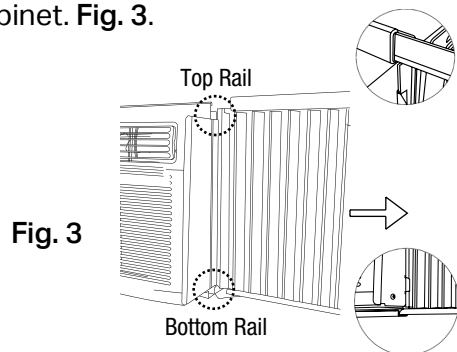

Fig. 3
D. Once the panel has been installed on the side of the cabinet, make sure it sits securely inside the frame channel by making slight adjustments. Slide the top and bottom ends of the frame into the top and bottom rails of the cabinet. Fig. 3.